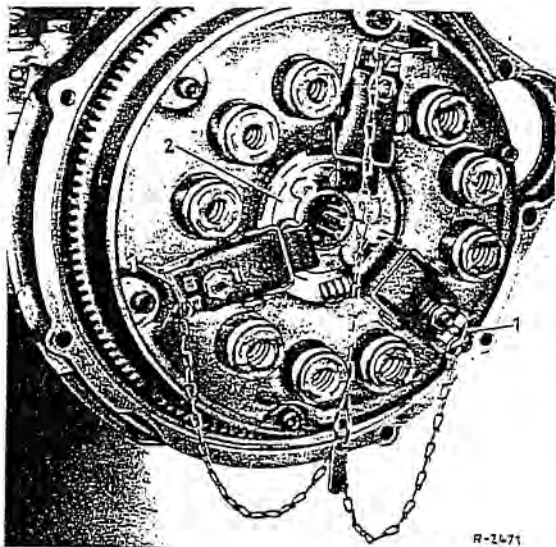

Fig. 25-1/1
2. Place the hold-down clamps 111 589 06 61 – or 186 589 01 61 for the 300 SE models with mechanical transmission – under the clutch release levers (Fig. 25-1/1).